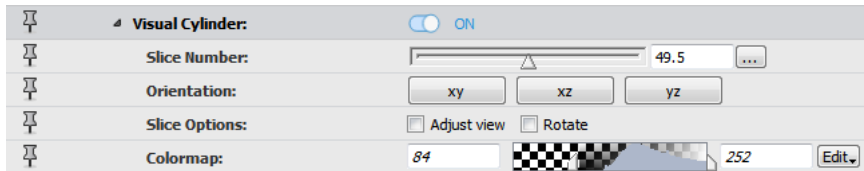

Figure 12.6: Visual Cylinder Port of *Cylinder Correlation Module*
1. Enable the *Visual Cylinder* port (see Figure 12.6).